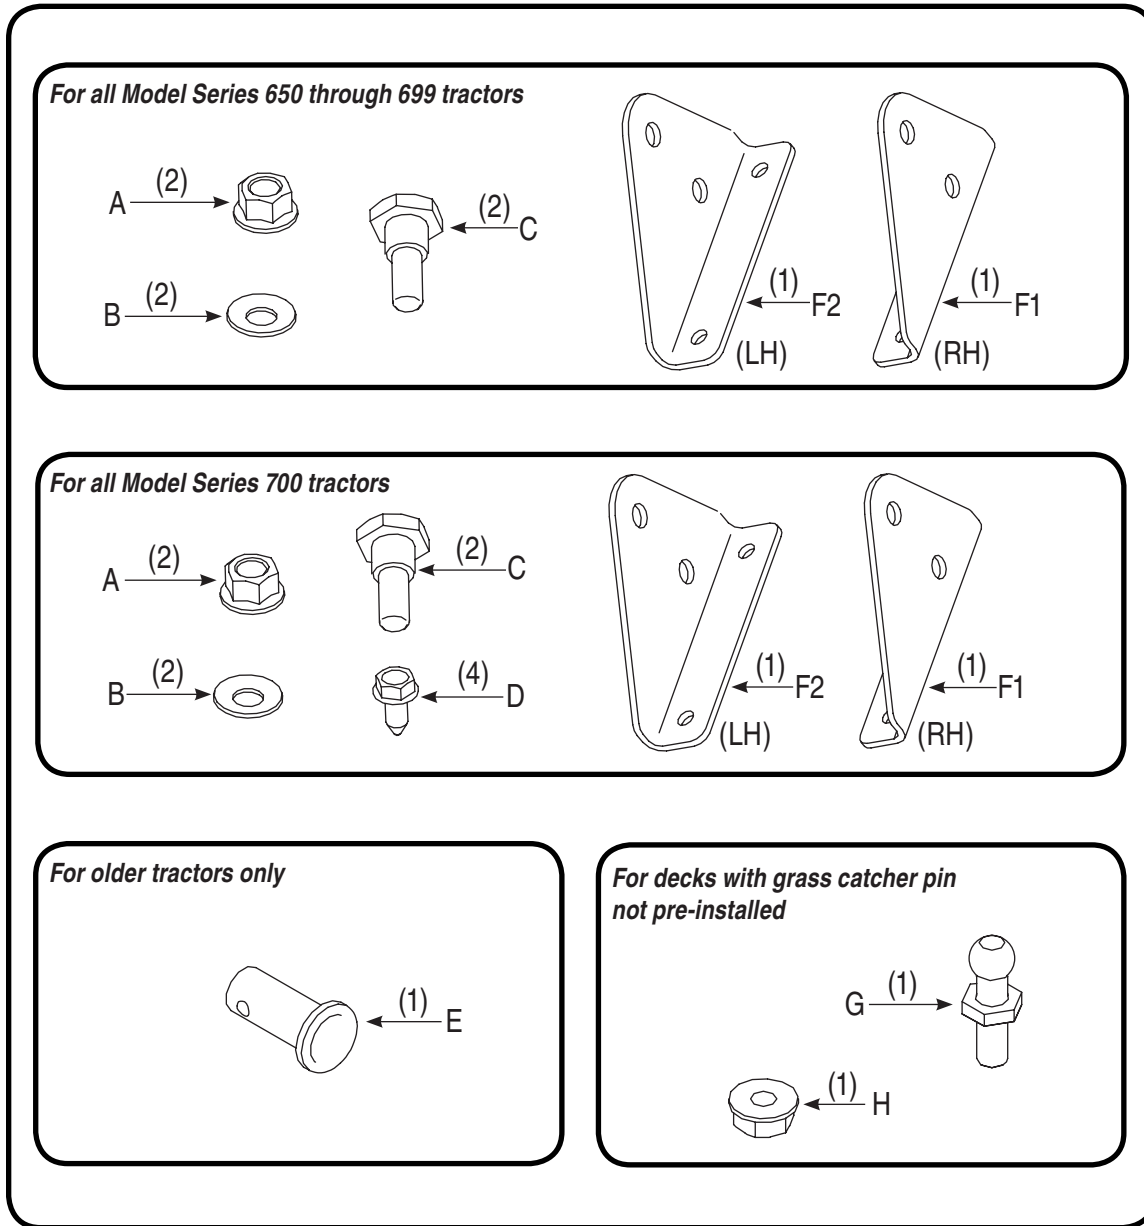
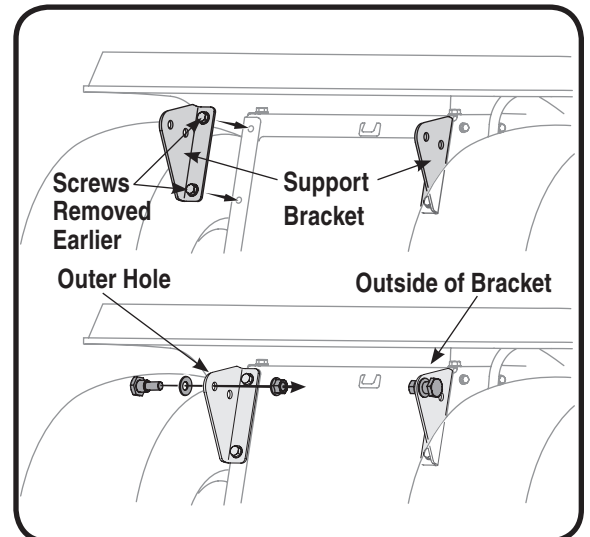
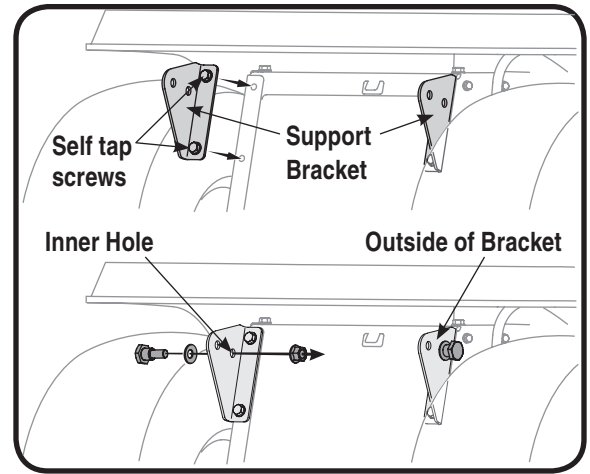

Figure 4
Figure 8
Figure 13
2. Place the right hand grass catcher support bracket (F1 from Figure 4), in position, with the wide end on top and the narrow end pointing down as shown in Figure 8.
3. Secure the support bracket to the tractor frame with two self-tapping screws earlier removed. Refer to Figure 8. Repeat on the other side using part F2 from Figure 4.
4. Insert a shoulder bolt (C in Figure 4) through a bell washer, (B in Figure 4) and insert the bolt from the outside of the bracket through the outer hole on the support bracket. Secure with a nut (A in Figure 4). See Figure 8 for details. Repeat on other side.
NOTE: *For some tractor models, this clevis pin is too large. Use a smaller clevis pin (E in Figure 4) in its place with the same hairpin clip.*
1. Locate the four self-tapping screws supplied in your hardware pack (D from Figure 4). Attach the right hand grass catcher support bracket (F1 from Figure 4) using two of the supplied screws in position as shown in Figure 13. Place the left hand grass catcher support bracket (F2 from Figure 4) in position and secure with the other two screws.
5. Insert a shoulder bolt (C in Figure 4) through a bell washer, (B in Figure 4) and insert the bolt through the Inner hole (closest to the frame) on the outside of the support bracket. Secure with a nut (A in Figure 4). See Figure 13 for details. Repeat on other side.